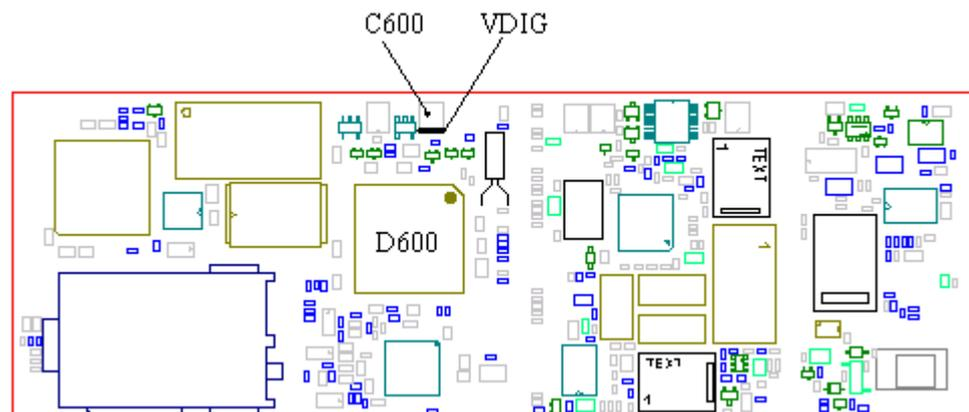

Fig. 8.2
- * If not, replace D600 (class B, fig. 8.2).
- If the resistance is less than 25 kohms, replace D600 (class B, fig. 8.2).
Measure VDIG (~3.2V) on C600 (fig. 8.2).
- If the resistance is correct, measure the resistance from C600 (fig. 8.2) to marked side of the resistors of the row (R630-R634, in this case R630, should be ~0 ohms) and from the other side of the resistor to the marked side of the keyboard pads (~0 ohms).